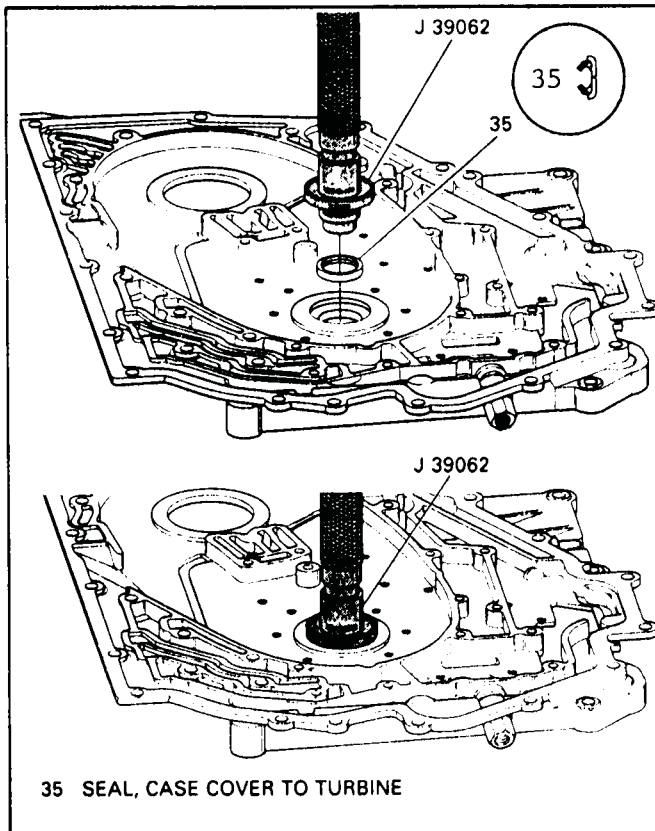

Figure 106
3. Install new case cover to turbine seal using tool J-39062 (See Figure 106). This seal will go either direction as shown in inset in Figure 106.